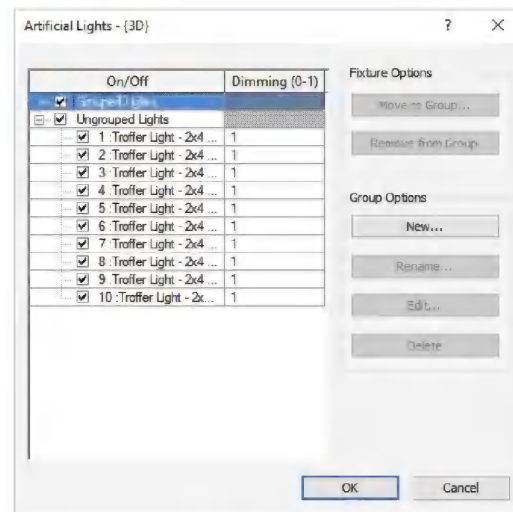

FIGURE 13-2.13 Scene Lighting dialog
27. Click on the **Artificial Lighting** button (Figure 13-2.13).
You will now see a dialog similar to the one shown to the right (Figure 13-2.13).